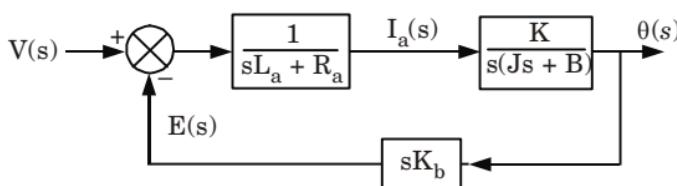

Fig. 13.
9. Block diagram is shown in Fig. 13.